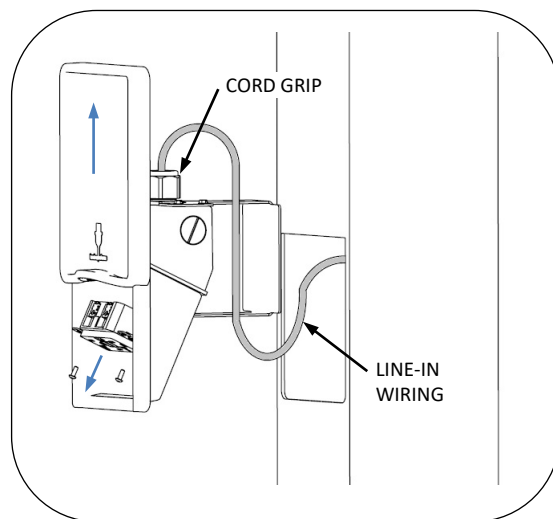
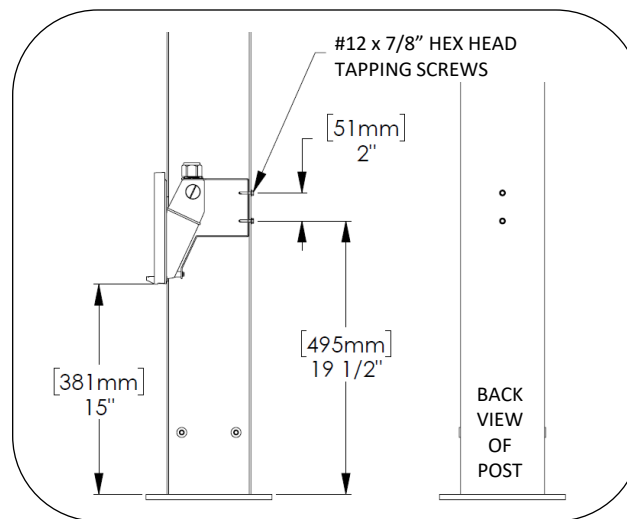

Fig. 10 – CONNECT WIRING TO POWER GARAGE
Fig. 11 – ATTACH POWER GARAGE TO POST
- Post with power garage ships with power garage uninstalled. Conduit and line-in wiring is provided by installer. Remove receptacle from power garage assembly. Run line-in wiring up through conduit, out opening in post and in through cord grip on power garage, see Fig. 10. Make connections to receptacle. Reattach receptacle to power garage. Install power garage assembly into opening in post, positioning as shown in Fig. 11. Attach power garage to post from the backside of the post using (2) #12 x 7/8" hex head tapping screws, dimensioned as shown in Fig. 11.